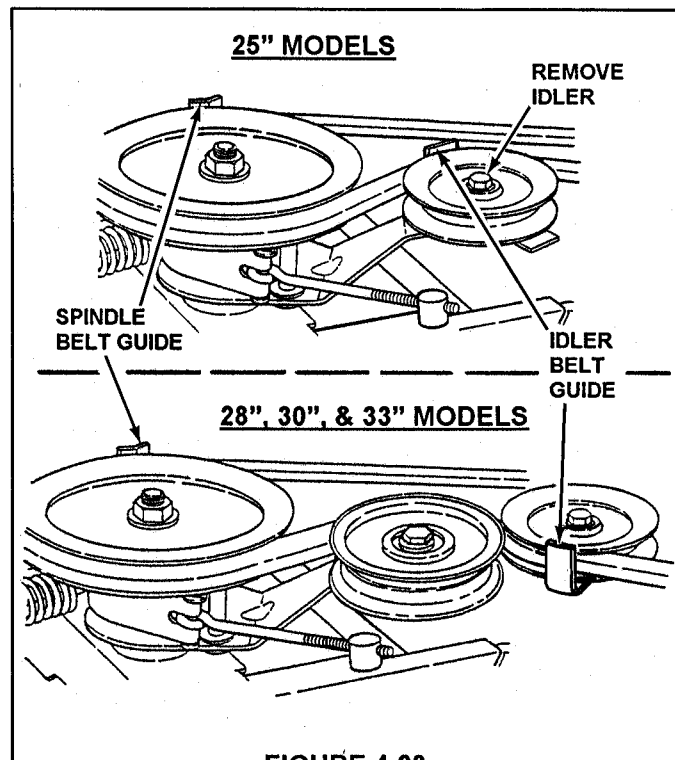
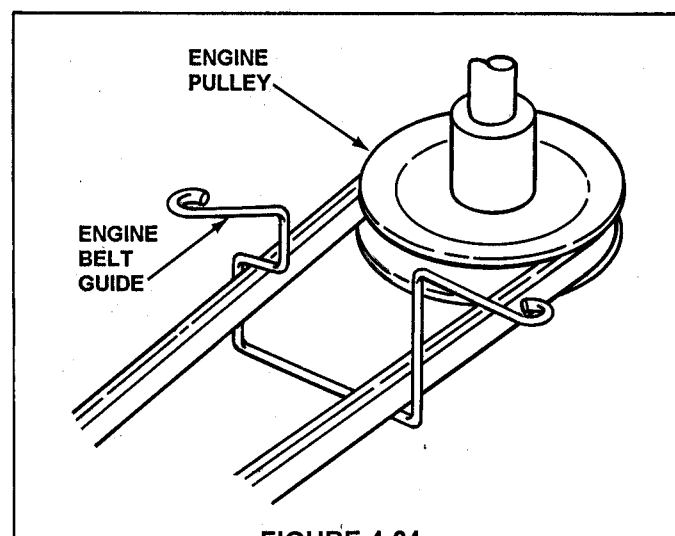

FIGURE 4.23
FIGURE 4.24
1. Remove idler. See Figure 4.23.
2. Move transmission shift lever to the neutral (N) position.
4. Route new belt through engine belt (engine belt guide shown in Figure 4.24) guide to engine pulley. Route belt as shown for the individual models shown in Figure 4.23.
6. Move transmission shift lever to the #5 position and place belt over drive disc and into drive pulley belt groove. See Figure 4.24.